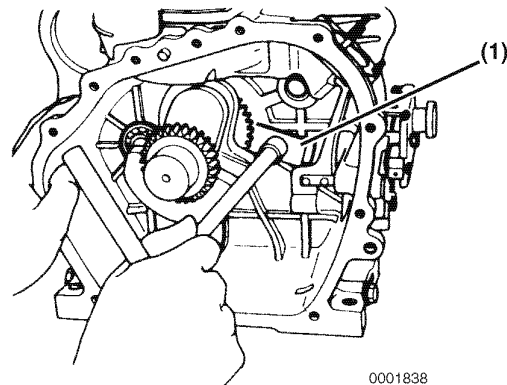

Figure 8-47
16. Remove the crankshaft bearing retainer fastener and bearing retainer (Figure 8-47, (1)) from inside the crankcase.